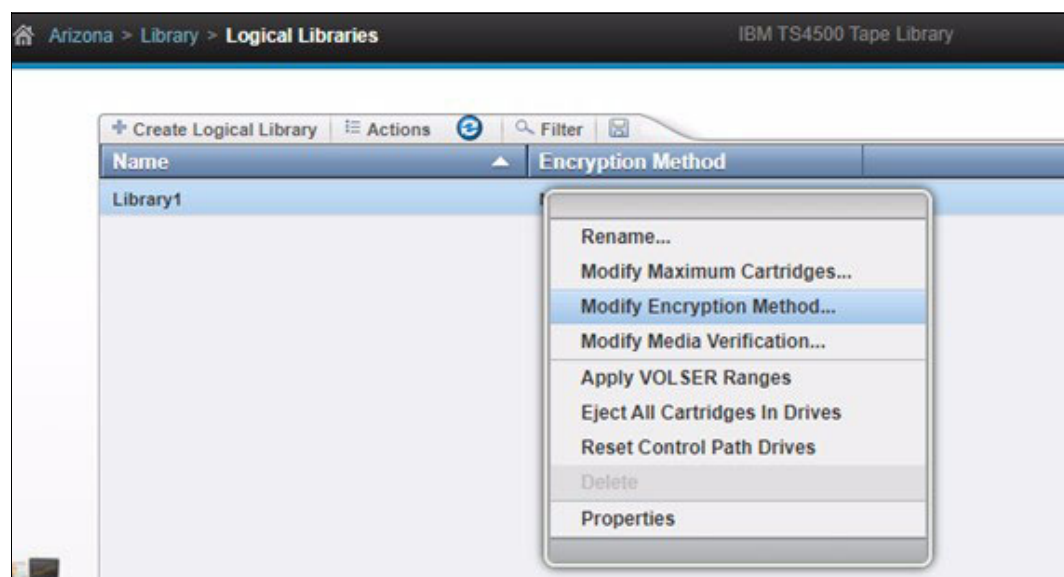

Figure 3-4 Logical Libraries Encryption Method options
1. Right-click the logical library and select **Modify Encryption**. The Modify Encryption Method menu opens (see Figure 3-4).